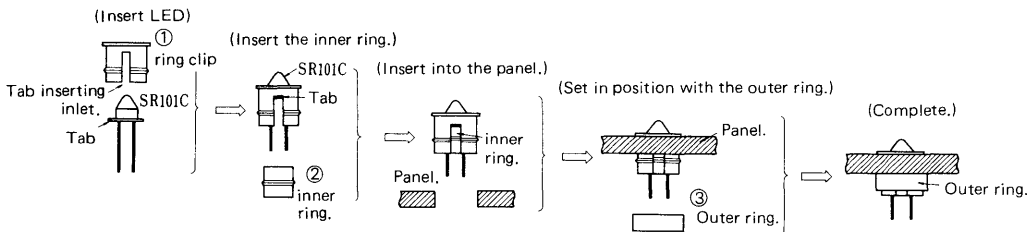

Fig. 1 Method of fitting SR101C type Panel Mounter.
The external view of the panel mounter is shown in Fig. 1 (a), and a diagram of a SR101C type LED completely mounted with a panel mounter is shown in Fig. 1 (b). A flow chart for the order of fitting is shown in Fig. 1 (c), the procedure of which shall be explained following. When mounting a SR101C lamp employing a panel mounter, first insert the LED into the ring tube ①. When doing this, make sure that the tab (projection of flange) of the LED enters the slit of ring tube ①. Next, in order to secure the LED, the internal ring ② is inserted from the bottom. The internal ring ② should be pushed in until its projecting part enters the inside groove of the ring tube ①. The whole construction is then inserted into the panel hole, and the panel mounter is secured to the panel with the external ring ③. For mounting, a panel hole diameter of 8.0 mmφ is recommended, and a panel thickness of from 1.0 mm to 3.5 mm is suitable.